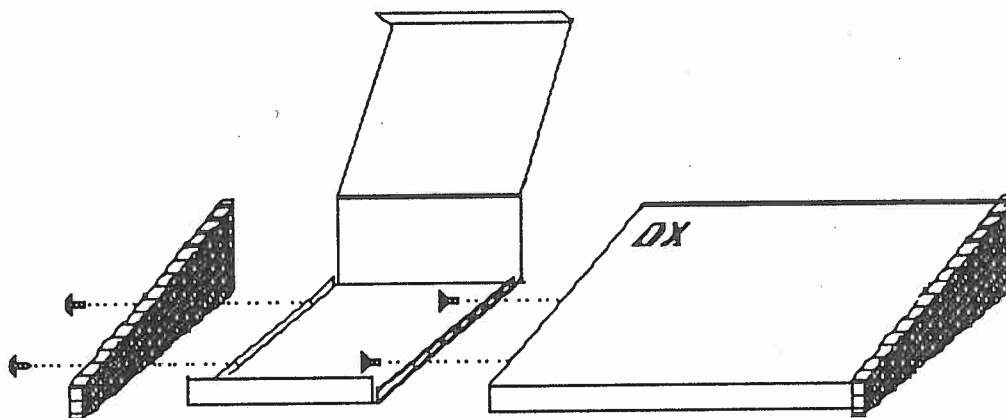

fig. 3
3. The Stretch chassis may now be fastened on to the DX chassis using two flatheaded screws (see **figure 3**).
- Fasten DX endbell onto the Stretch as shown in **figure 3**.